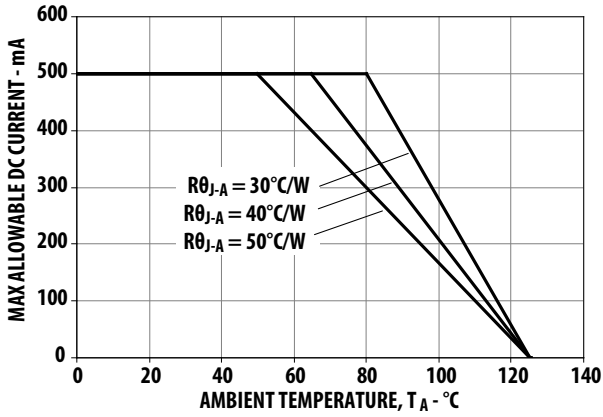

Figure 10. Maximum Forward Current vs. Ambient Temperature. Derated based on T_{JMAX} = 125 °C, R_{θJ-A} = 30 °C/W, 40 °C/W and 50 °C/W
- Derate linearly based on Figure 10 for AllInGaP and Figure 22 for InGaN.